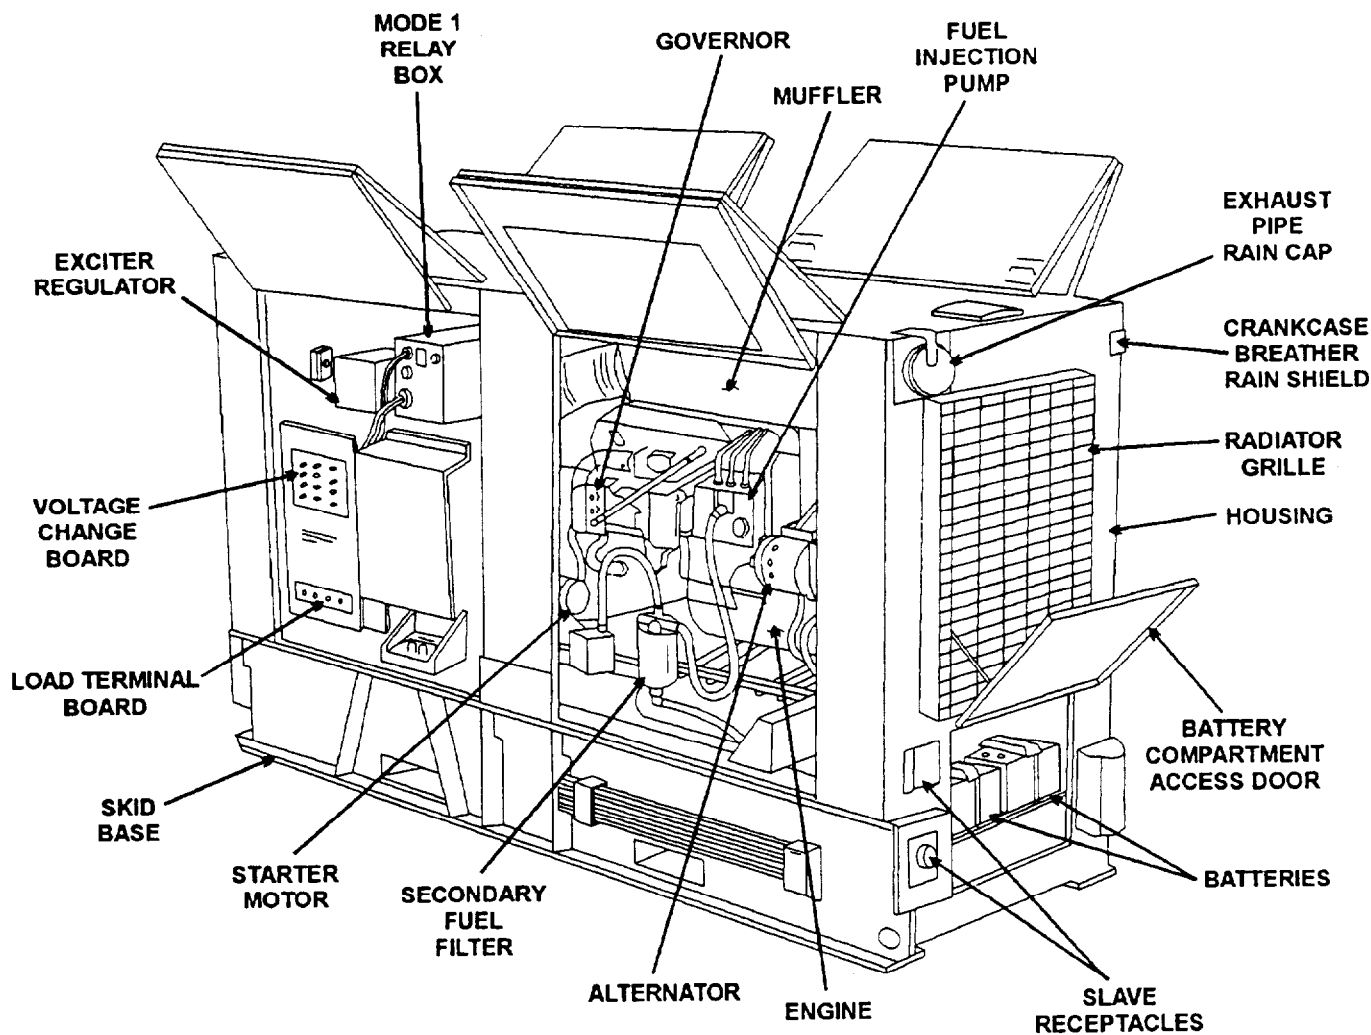

Figure 3-16.—Generator set, right front, three-quarters view.
7. Alternator (fig. 3-16) and belts. Inspect the alternator for signs of overheating, frayed or loose wiring, and corrosion. Inspect the alternator drive belts and fan belts for proper tension and for cracks, fraying, and other signs of deterioration.